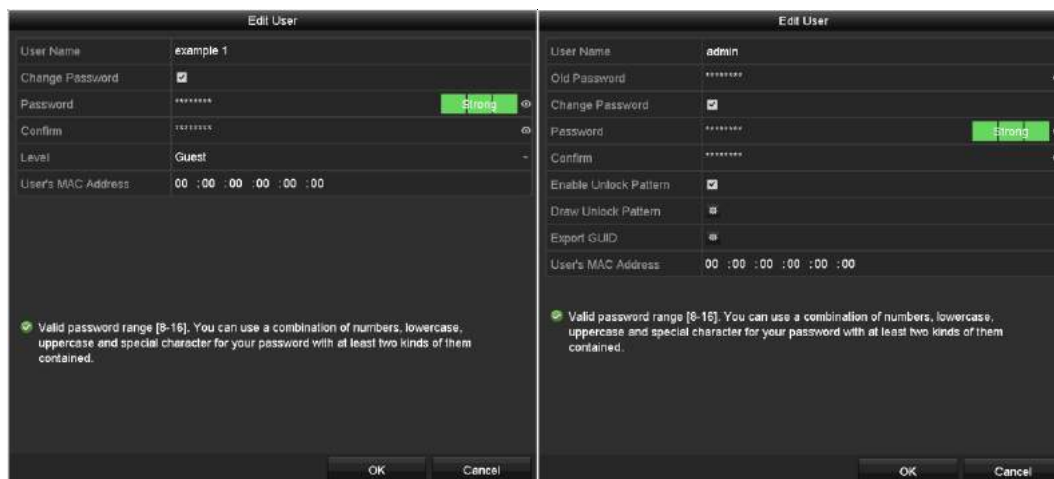

Figure 17-17 Edit User Interface
Step 3 Click the  icon to enter the **Edit User** interface, as shown in Figure 17-17.